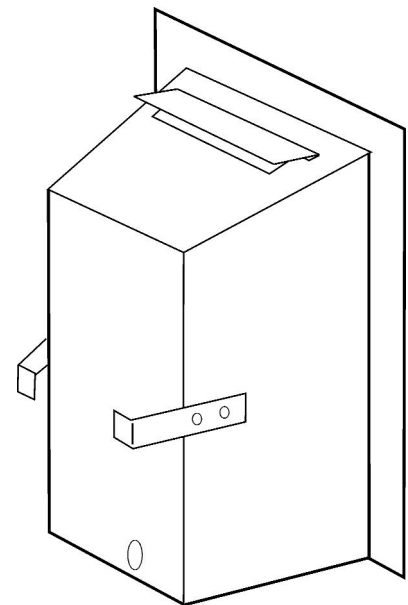

Figure 13. Fireback spacers
13. The appliance is supplied with two fireback spacers. **Do not fit the fireback spacers if the fire is to be installed into a precast or clay flue block system as in section 4.2.3.** These should extend backwards to ensure sufficient clearance from the back of the fireplace. Remove the label and retaining screws from the rear sides of the hotbox. Position the fireback spacer as shown in figure 13. Secure the fireback spacers using the screws removed previously and the two supplied with the fire.